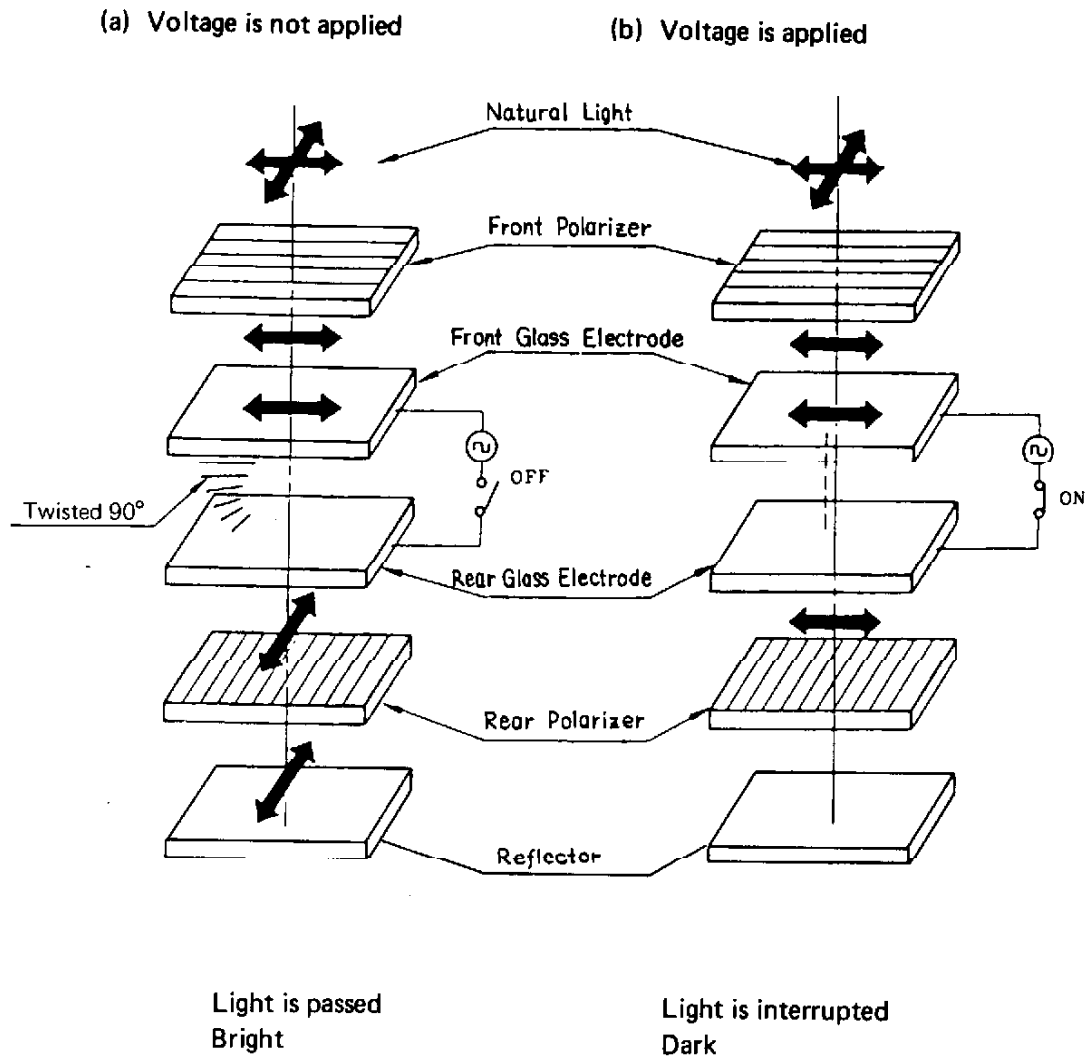

Figure 2-21. Operation Theory of LCD Panel
Figure 2-21 demonstrates how the LCD operates:
2. As shown in Figure 2-21 (a), when the liquid is not electrically excited, its long cigar-shaped molecules are parallel to each other and perpendicular to the plates.
3. In Figure 2-21 (b), voltage is applied and the liquid appears frosted in current-carrying areas. Ion activity causes the molecules to scatter incident light.